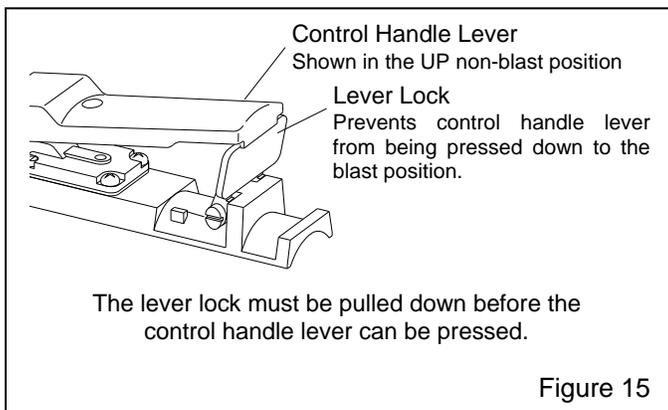

Figure 15
4.2.3 Make sure the control handle lever is in the up (no blast) position, as shown in Figure 15, and that the handle lever and safety lever lock move freely.